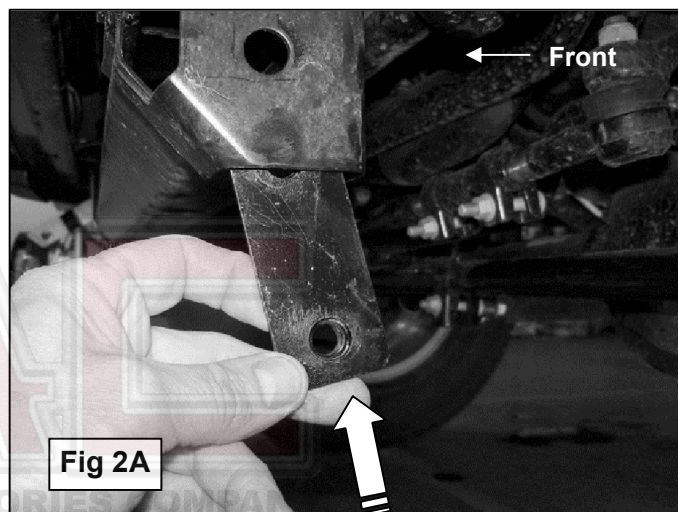
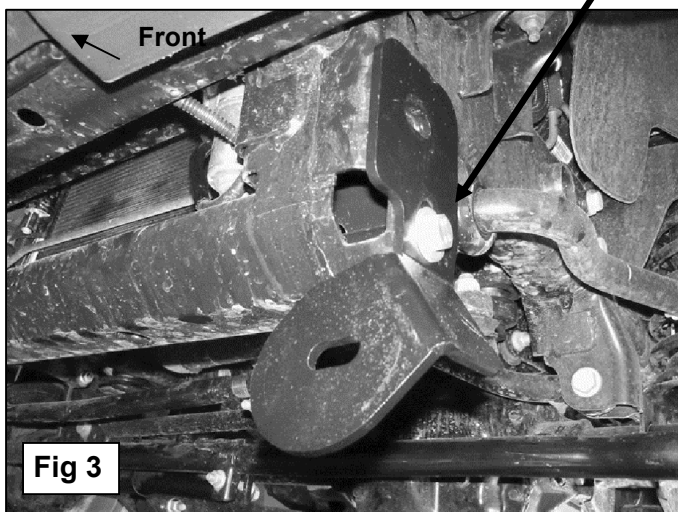

Fig 2A
Fig 3
- Starting on the driver side, insert (1) 12mm Double Nut Plate, **(Figure 2A)**, into the opening in the end of the frame crossmember, **(Figure 2B)**. Line up the lower threaded hole in the Nut Plate with the lower hole in the frame. Select the driver side Mounting Bracket. Bolt the Mounting Bracket to the side of the crossmember with (1) 12mm x 25mm Hex Bolt, (1) 12mm Flat Washer and (1) 12mm Lock Washer inserted through the lower hole in the Bracket, crossmember and into the Double Nut Plate, **(Figure 3)**. Leave hardware loose at this time.
Insert the 12mm Double Nut Plate (2B) into the opening in the bottom of the end of the crossmember with the flat side against the crossmember (Fig 2A) and the hex nuts facing inward (Fig 2B)